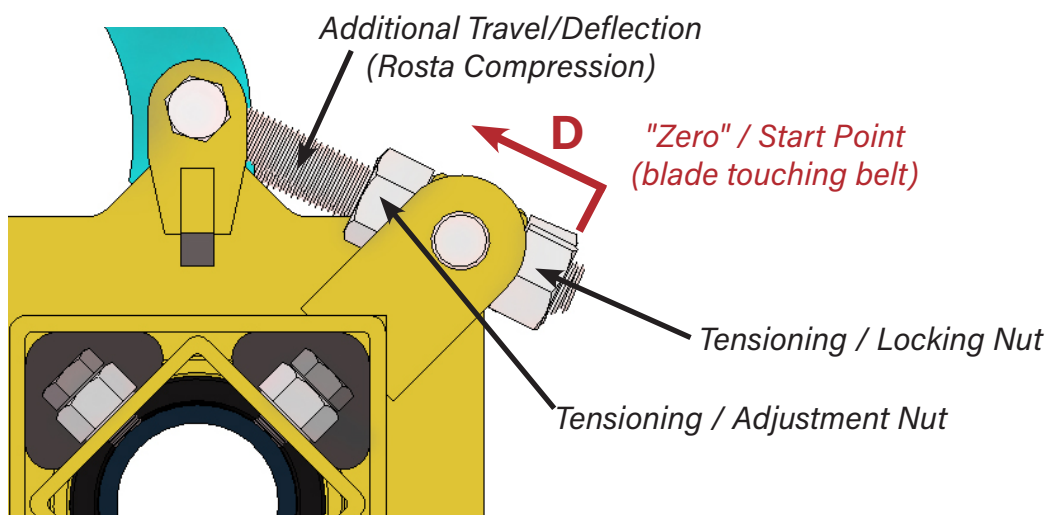

Figure 8: Rosta Tensioner Adjustment
3. Continue to turn the lower nut to adjust the exposed length of the tensioning bolt. Keep turning until you get the movement/deflection required according Table 3 (continuing to turn the nut increases the blade/belt contact pressure). Set tension level according to Figure 8 and Table 3